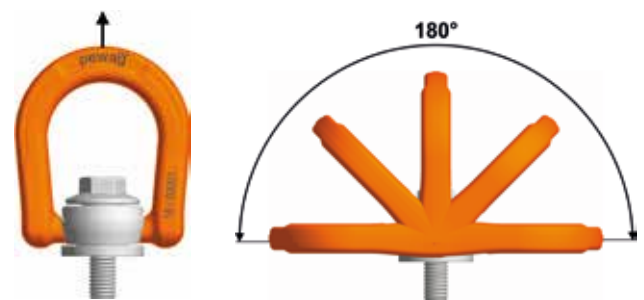

Fig. 1: Permitted directions of load that occur during correct use.
Load: The lifting point may only be loaded in the direction specified (fig. 1), at the maximum load capacity according to table 1 and in accordance with the conditions use specified in this manual.
- direction of pull is not within the indicated area (fig.1)